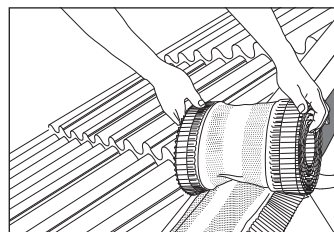

Fig. 7 – Roll out HipFast roll
- 6 Starting from eaves, roll out HipFast roll centrally over hip rafter battens, and secure in position using well spaced felt nails, leaving a distance of 100mm to oversail the hip/ridge apex. Joints along hip should be lapped by 100mm to drain water down roof (Fig. 7).